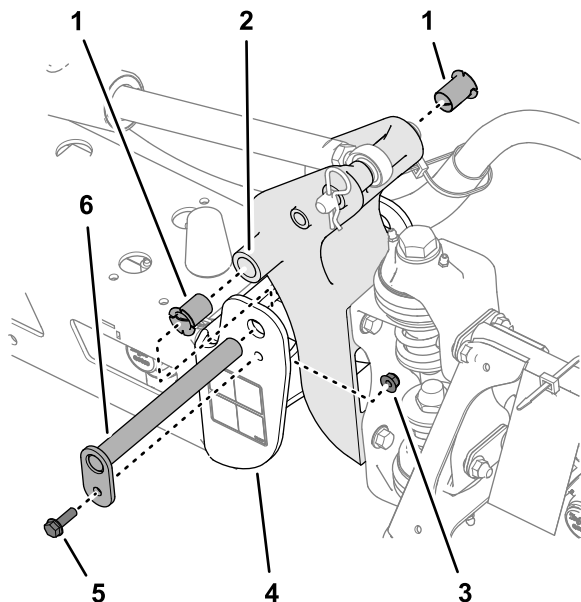

Figure 111
3. Remove the bolt and nut that secure the pivot pin, and remove the pin (Figure 111).
5. Remove and inspect the nylon bushings from the front and back sides of the pivot bracket (Figure 111).
6. Lubricate the nylon bushings with a small amount of oil, and install the bushings into the pivot bracket (Figure 111).
7. Align the holes in the pivot bracket with the holes in the end channel (Figure 111).